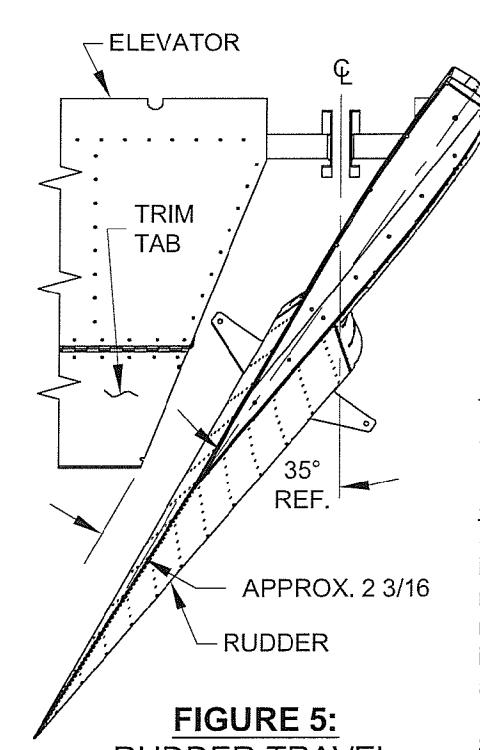

**FIGURE 3: ATTACH ROD END BEARINGS TO RUDDER**
Step 5: Thread the AN316-6 jam nuts onto the MD3614M rod end bearings and thread the rod end bearings into the R-1002 Rudder Spar as shown in Figure 3, Detail A. Measure from the center of the pivot bolt hole to the forward face of the rudder spar. As a starting point use the dimension shown in Figure 3, Detail A.